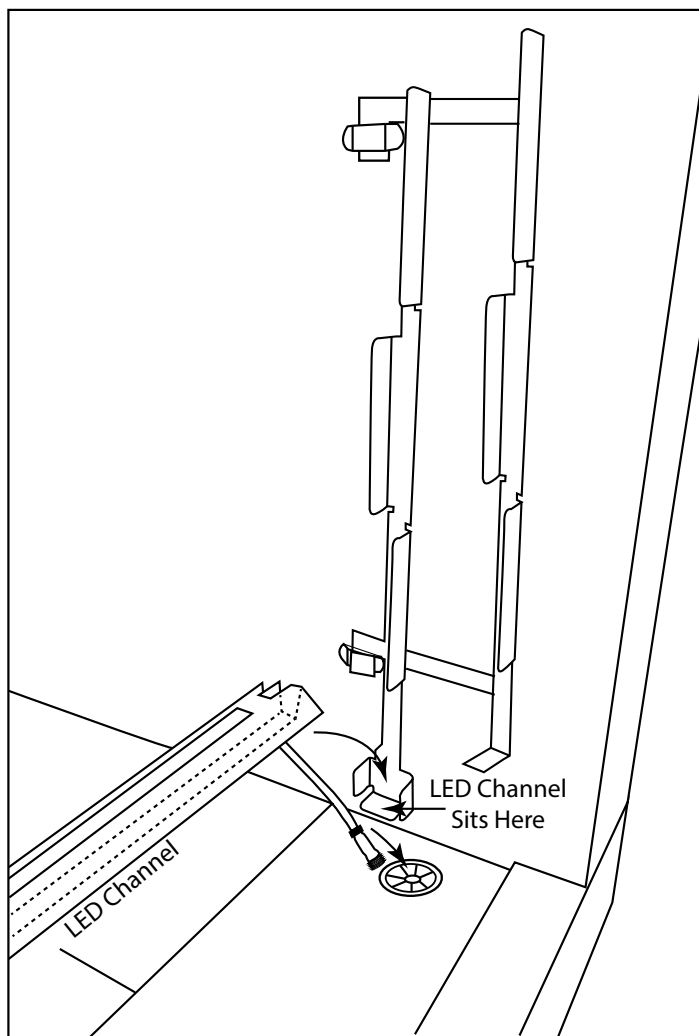

Fig. 20 Installing LED lights and channel
Step 6: Carefully push the LED channel connector through the wire grommet. As you push it through the grommet sit the LED channel into the bottom of the glass clip. Ensure the other end of the channel is also sitting inside the other retainer clip. See Figs. 20 & 21 as a reference. **Note:** If you are installing into a see-through fireplace, install the other LED light strip and channel the same direction.